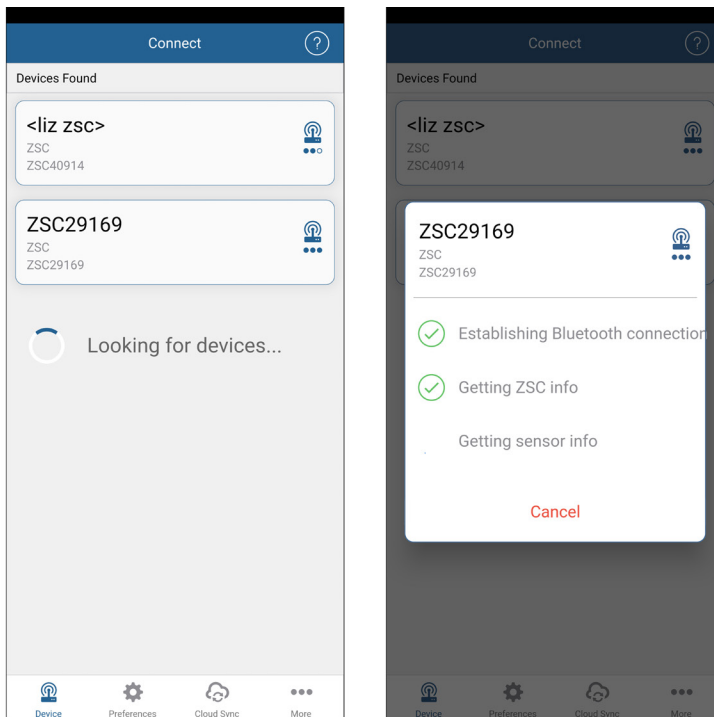

Figure 7 Views of ZSC Bluetooth interface connecting
7. Look for the ZSC in the Devices Found window (Figure 7) and select ZSC to connect.